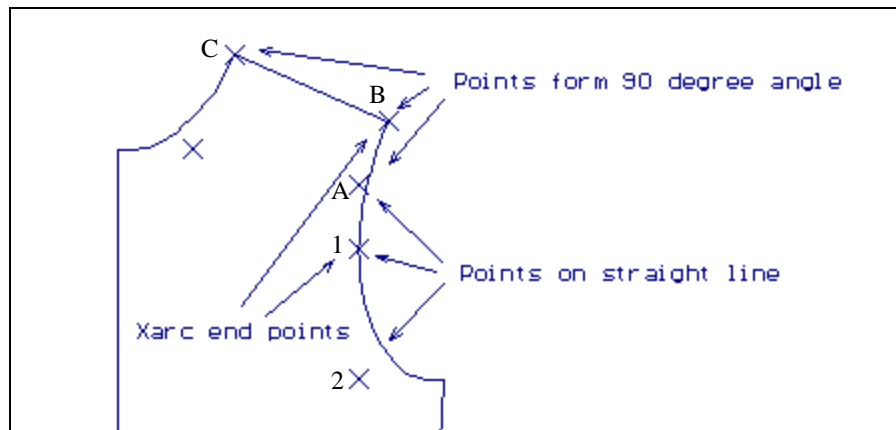

Figure 9: Placing points to form curves
- If the corner point, the end point, and the next point after that all lie on a straight line, the Xarc will merge smoothly into the next segment of the object. (See curve A-1-2 in Figure 9 below.) This is true whether the next segment is a straight line or an Xarc. A sleeve cap, for example, will consist of several curves that need to merge smoothly.
- If the corner point, the end point, and the next point of the object form a right angle, then you will get a square corner where the arc meets the next segment of the object. (See curve A-B-C in Figure 9 below.) This